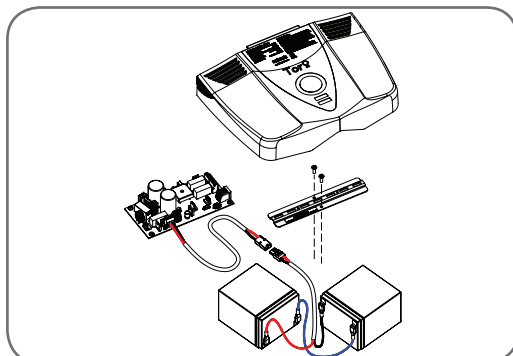

Fig 18.4
- Remove the batteries and replace with the same type (Fig. 18.4).